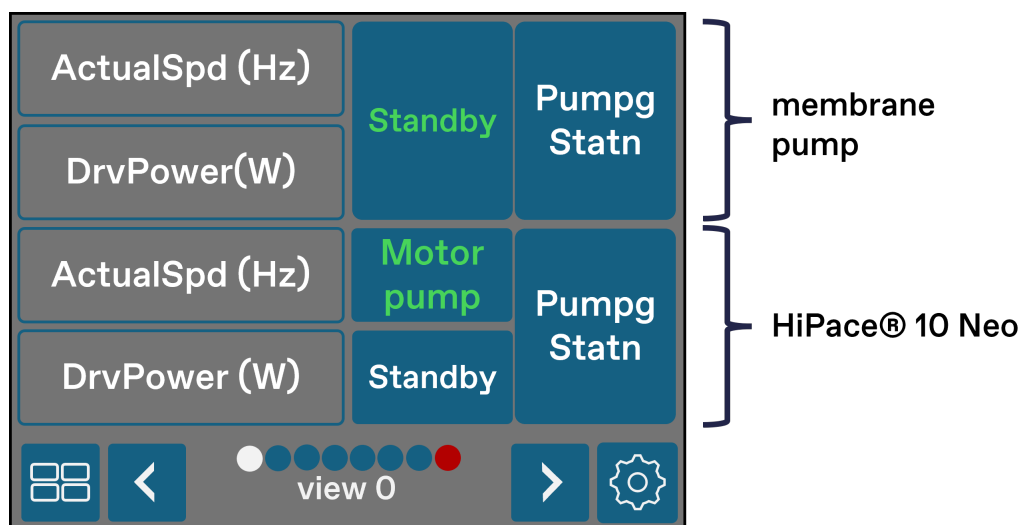

Figure 25: "view 0" screen for operating the membrane pump (top) and the HiPace® 10 Neo (bottom)
6. A new screen will pop up called "view 0" (Figure 25), where the top half is for controlling the membrane pump (backing pump) and the bottom half is for controlling the HiPace® 10 Neo (turbo molecular pump). The HiPace® 10 Neo pumping setup is now ready for use.